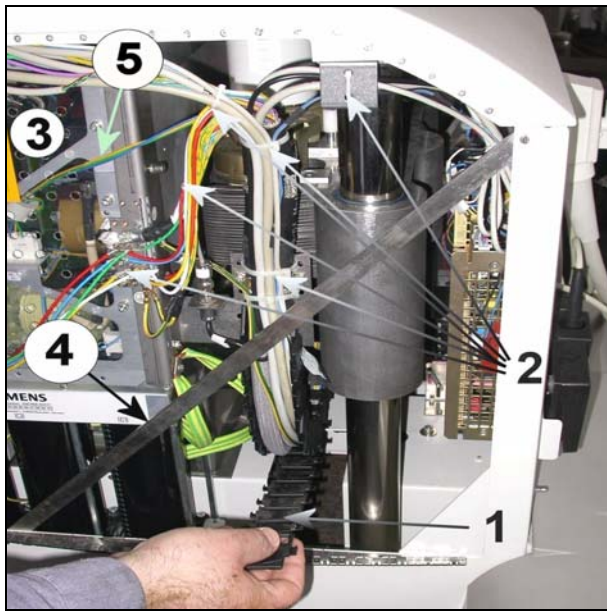

Fig. 15
- Remove the plate (4/Fig. 15).
- Open the energy chain fully (1/Fig.15).
- Remove the Plexiglas cover (3/Fig. 15).
- Remove the ferrite core from the M2 X1 cable (5/Fig. 15).